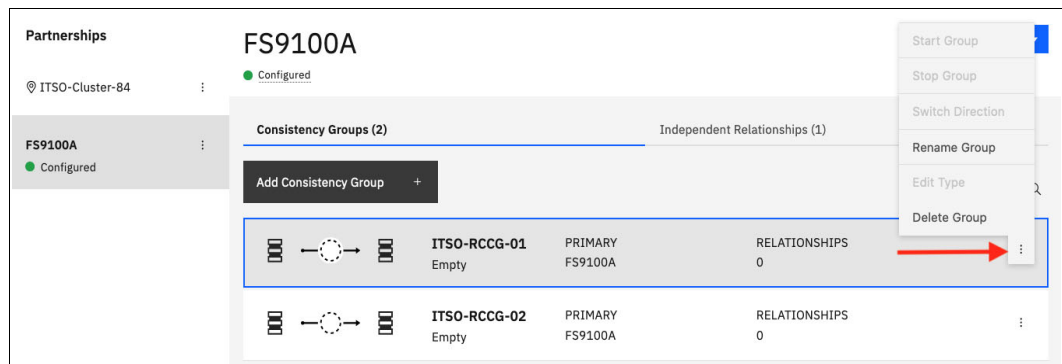

Figure 10-128 Renaming a Remote Copy consistency group
2. Select the target system for the RC consistency group that you want to rename, click the three dots for the consistency group to be renamed, and select **Rename Group**, as shown in Figure 10-128.